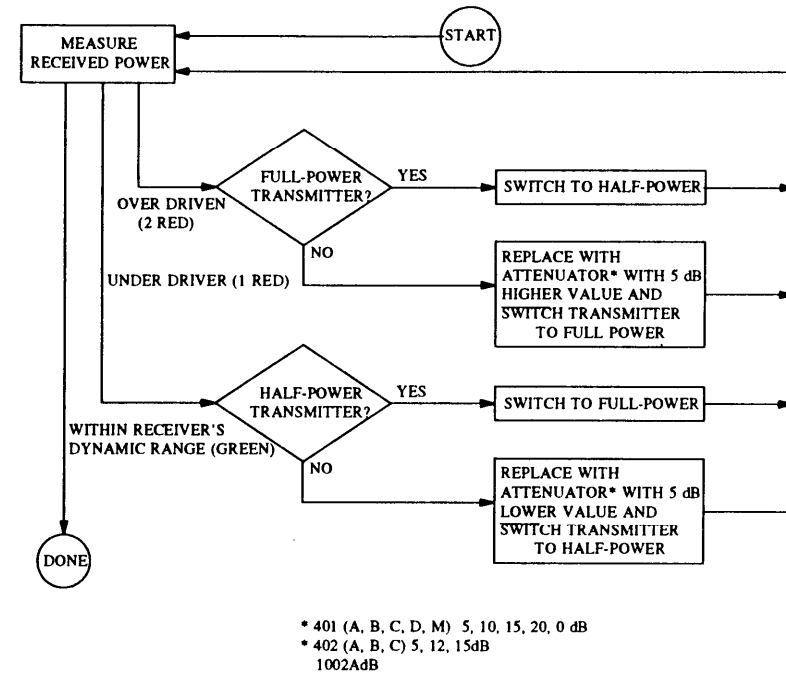

Figure 27-9. Flowchart for Adjusting the ORPI Fiber-Optic Link
5. If the fiber-optic link is overdriven or underdriven, adjust it by changing the power level settings on the Transmit AEW3 and/or replacing the 401 or 402 series attenuators at the Receive LCIT with different values (see table 27-4). If the link still doesn't fall into adjustment, use the information in flowchart figure 27-9. Adjust until the link is brought in range.